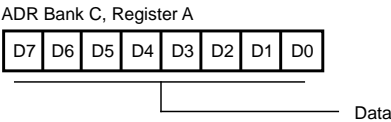

Figure 25. Result Register (Read-Only)
**ADE (bit 7).** A zero disables any A/D conversions or accessing any ADC registers except writing to ADE bit. A one Enables all ADC accesses. ADC result register is shown in Figure 25.